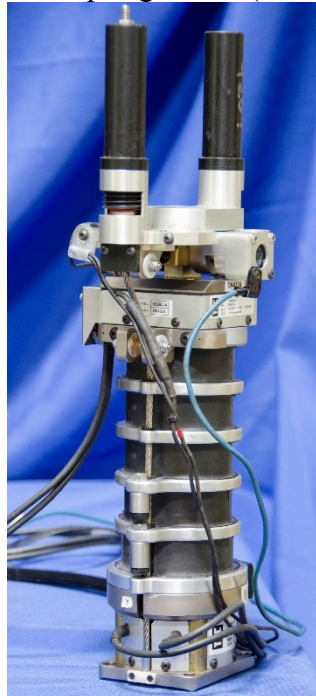

Figure 4-43. Screw on neck spring tubes
4.2.2.32 Screw on the Front and Rear Spring Tubes (472-2103) (Figure 4-43).